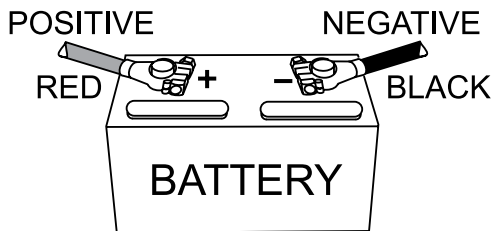

Figure 44. Battery
4. **ALWAYS** be sure that the battery cables are properly connected to the battery terminals as shown below. Generally the **RED** cable will be connected to the positive terminal of the battery, and the **BLACK** cable will be connected to the negative terminal of the battery. See Figure 44.